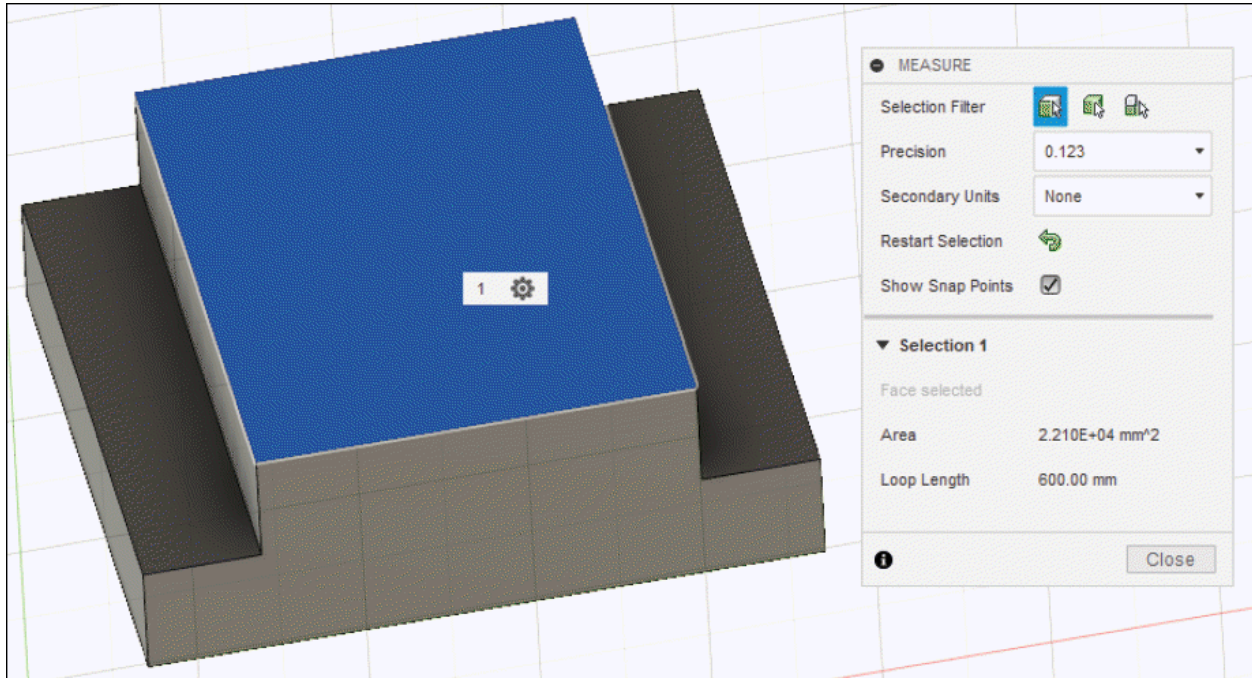

Figure-35. Updated MEASURE dialog box
- On selecting the face, the updated **MEASURE** dialog box will be displayed with the measurement of selected face; refer to Figure-35.